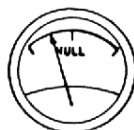

Figure 5-1. Null Offset Indication
- f. With the L-C switch set at C, adjust potentiometer 1A2A2R6 so that the meter pointer swings both sides of the letter N in NULL on the face of the meter. The left edge of the N represents the negative 100 mV offset required. Make the final setting at the left edge of the N as indicated in figure 5-1.